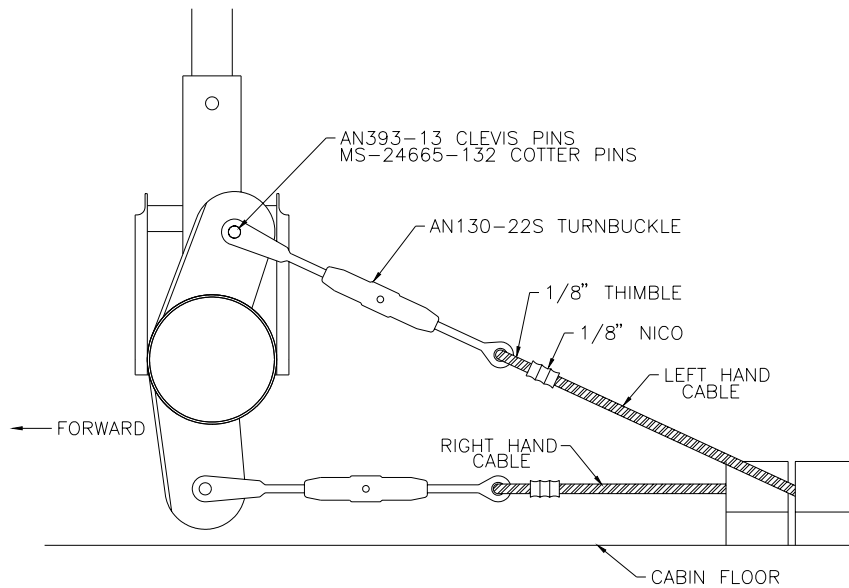

Figure 20.11.2
- 3) Attach turnbuckles (AN130-22S) to the control column. Attach cable to turnbuckles. Figure 20.11.2.
12) With the rudder pedals in neutral position, attach the rudder cables to the T12-HT4 tangs on the rudder pedal eyebolts using an AN100C-4 Thimbel. figure 20.11.2.